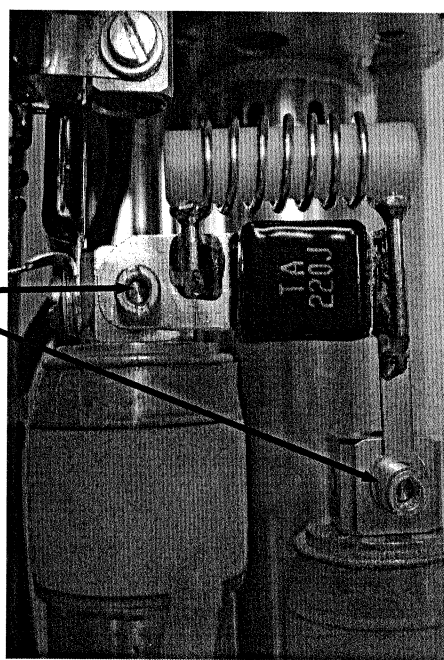

Fig. 2: Insert (HZ...)
2. Replace the installed exchangeable insert by the desired one: Remove the fixing slotted nut (Fig2) and the insert consisting of a capacitor and a solenoid coil.
For positioning see photograph (Fig.2)